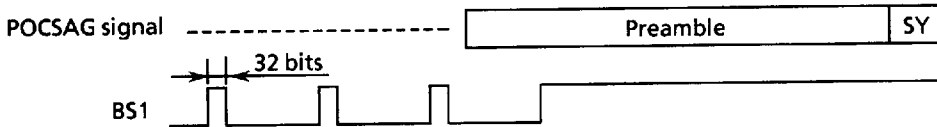

Figure 11 Timing of BS1 pin and preambles
The S-7037AF drives the reception frequency (RF) circuit intermittently to save power consumption. When BS1 pin is high, the radio part is turned on to detect preambles. When the BS1 pin is low, preamble signals are not detected. Once a preamble is detected, the BS1 pin is set to high until a SY is detected. Figure 11 shows the timing of BS1 pin and preambles.